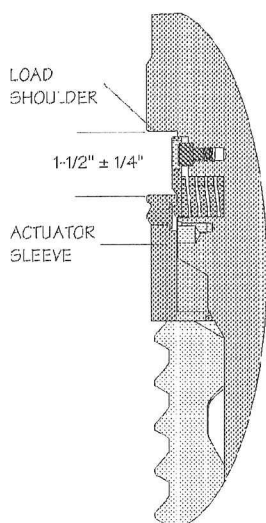

Figure 2. Detail of Load shoulder and actuator sleeve measurement
- d. Verify the gap between the load shoulder and the actuator sleeve is 1-1/2" ($\pm 1/4$ "). Measure this gap in two places, 180° apart. Refer to **Figure 2**.